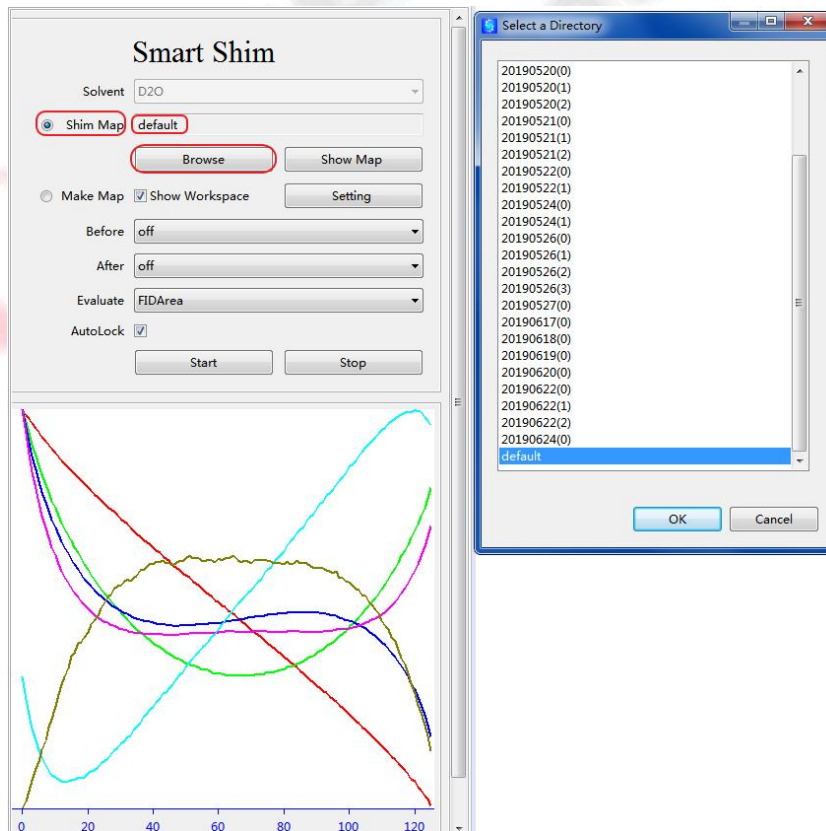

Figure 2.22 Select the user-created shim map
(1) Select **Shim Map** to use existing Field Map for shimming. Displayed in the box is a map named default, i.e., the system's default Field Map for current solvent. It will be displayed under the Smart Shim window, as shown in the left of Figure 2.22. Click **Browse** to open a window for the selection of user created Field Maps, as shown in the right of Figure 2.22. The maps coming along with the system is in the directory of default under current solvent, for example, if the solvent is D₂O, the path is *D:\SpinStudioJ-1.4.9alpha-20190624\system\data\solvents\D2O\gradshim1d\default*. The user created maps are saved in the directory of gradshim1d under current solvent, with a name in the format of *yyyymmdd(n)*, where n is the sequential number, starting from 0, for these maps created in the same day. For example, 20190622(2) is the 3rd map created at June 22, 2019.